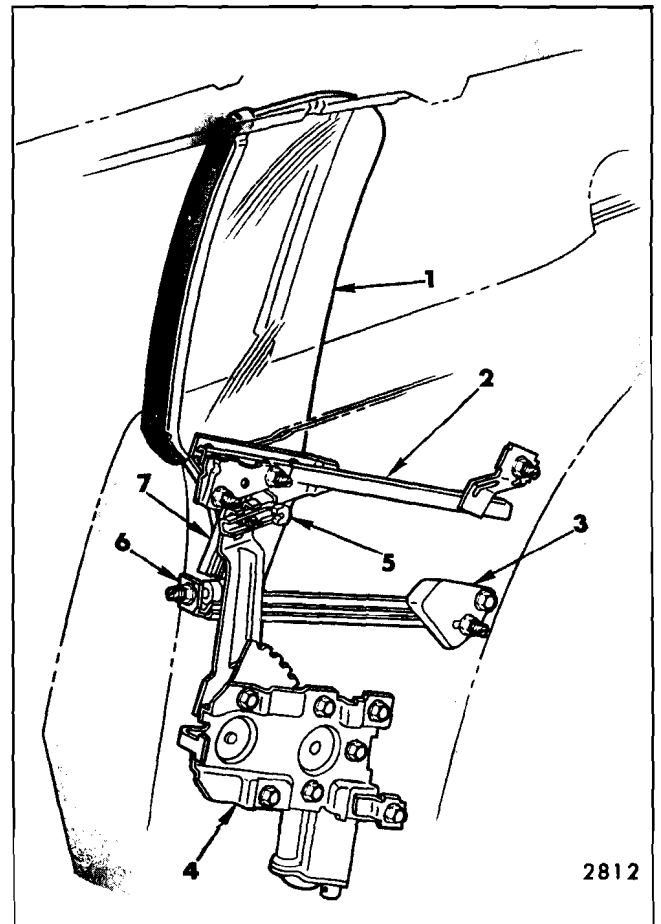
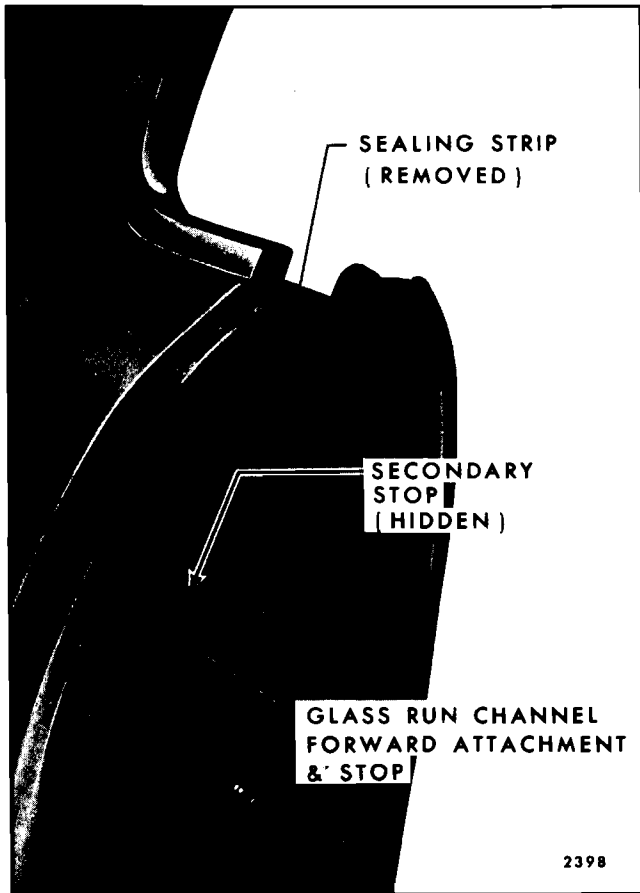

Fig. 7-26—Rear Quarter Hardware - Cadillac "E" Body
Fig. 7-29—Rear Quarter Window Hardware Attachments on Lock Pillar
Figure 7-26 identifies the component parts of the "E-87" rear quarter hardware, their relationship and various attaching points.
Critical rear quarter window adjustments can be achieved at the lock pillar and **DO NOT** require seat and side wall trim removal (see Fig. 7-29).
2. The forward glass stop can be adjusted fore and aft by loosening lock nut and turning stud in or out (see Fig. 7-29).
3. A slight amount of in or out adjustment of glass is provided by an elongated slot at glass run channel forward attachment (see Fig. 7-29).
4. A secondary glass stop is located in the vertical sash channel cam (Fig. 7-26). This stop is retained by a single bolt and is accessible through lock pillar opening (see Fig. 7-29).